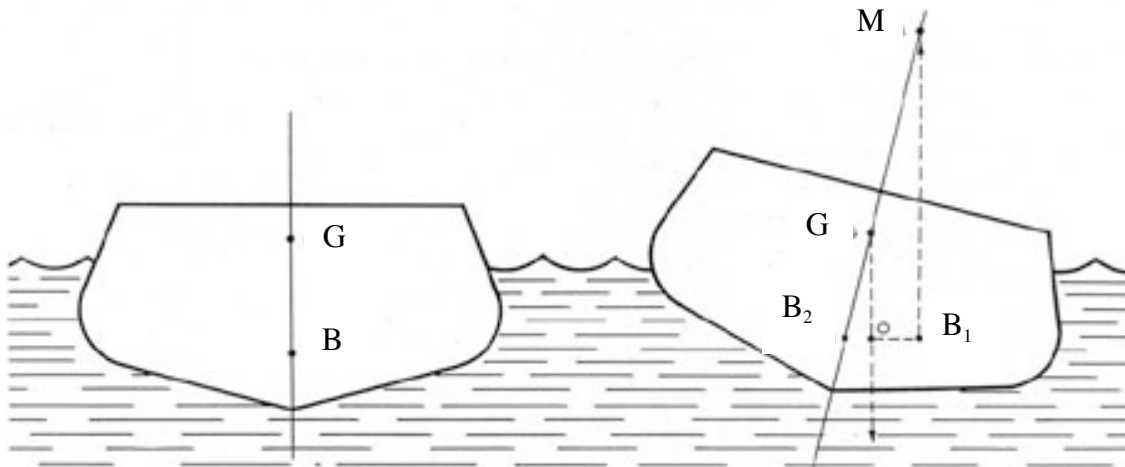

Figure 3 Geometry of roll, defining center of gravity (G), center of buoyancy (B) and metacenter (M).. [1]
Figure 3 illustrates the basic forces and motions involved in roll. In normal zero roll conditions; the center of gravity (G) and the center of buoyancy (B) are vertically aligned. (B is the center of gravity of the displaced water, and the net buoyancy force acts vertically through that point.) When the hull rolls, B is displaced and now acts